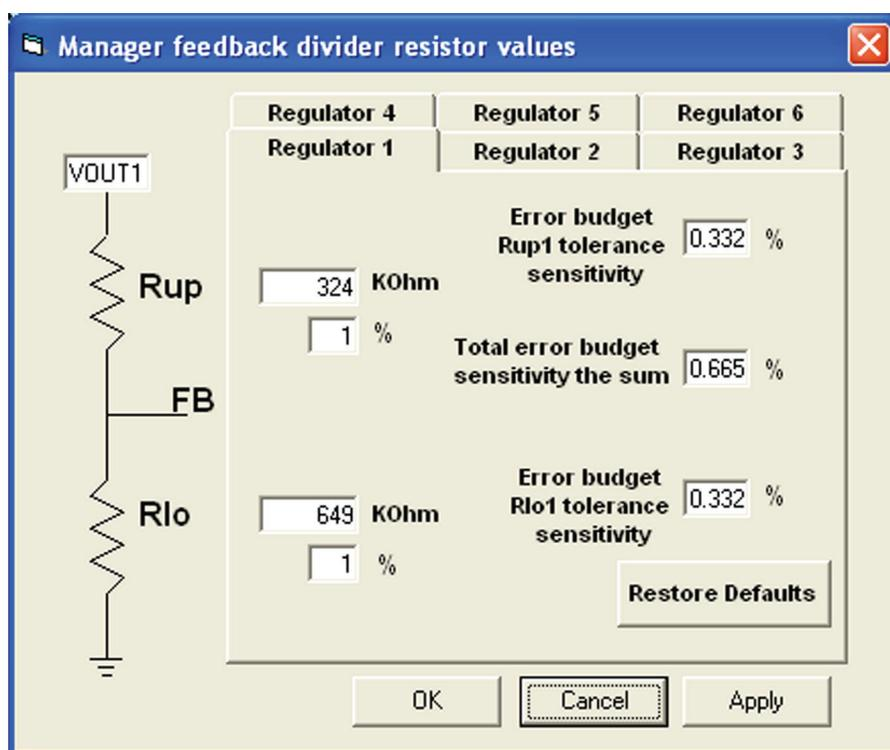

Figure 6. Change Resistor Divider Networks Window
**Change Resistor Divider Networks** button opens up a pop-up window as shown in Figure 6 with six tabs allowing the user to change the resistor divider network for each switching regulator. These resistor values will be used to calculate the values displayed in the VOUT1-VOUT6 text boxes on the LTC3675 control window. These values are stored in the LTC3675.ini file when the LTC3675 control window is closed so the user will not have to enter the new values each time the program is run.